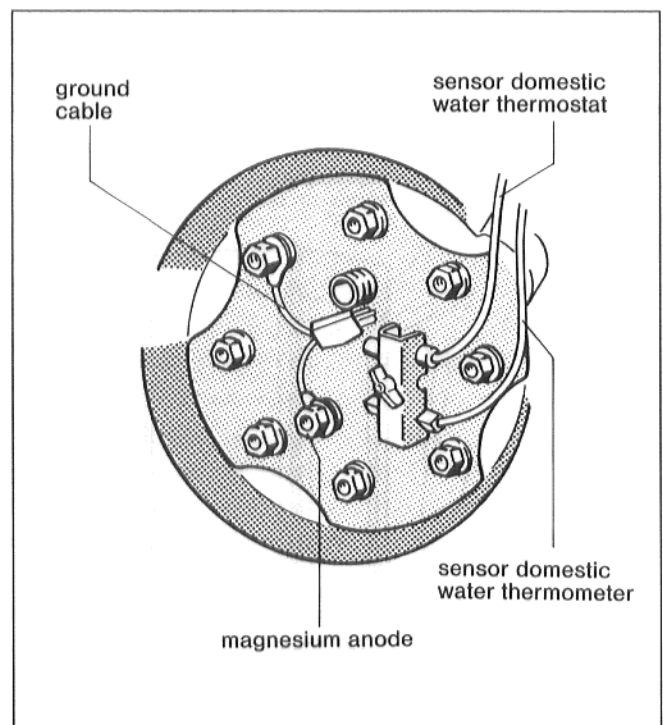

Fig. 14
- Insert the ring of the grounding cable and screw in the hexagonal head bolts (Fig. 14).